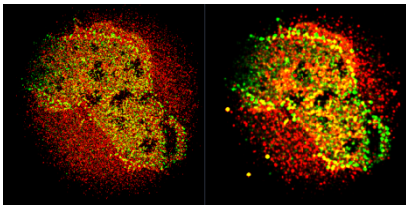

Fig. 593 Split view tab - group channels selected
- **group channels**: channels are grouped according to their modes (HR1, HR2, etc. together; SWF1, SWF2, etc. together) (Fig. 593).